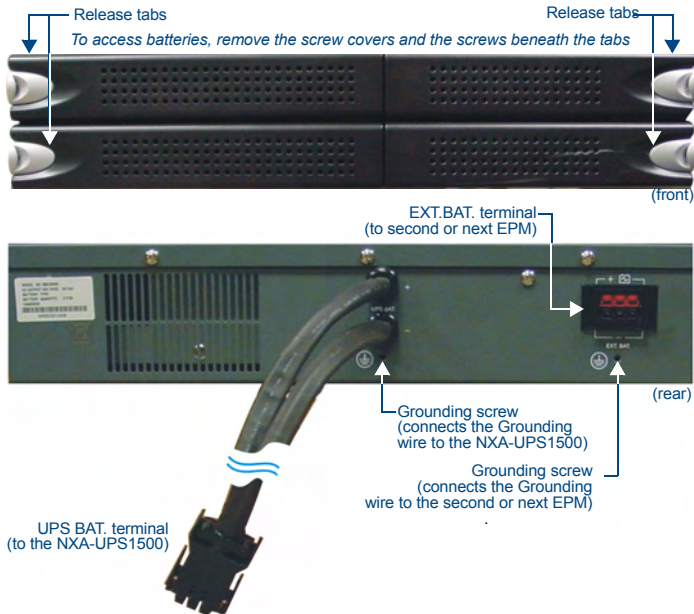

FIG. 1 NXA-UPS1500 EPM Extended Power Module
NXA-UPS1500 EPM Extended Power Module (FG 678-16) works with the NXA-UPS1500 Uninterruptible Power Supply to increase the duration of backup power, providing up to 3X additional battery run time (FIG. 1).
1. Remove the Release tabs on the front panel (see FIG. 1) to expose the screws that secure the Battery Compartment Cover.